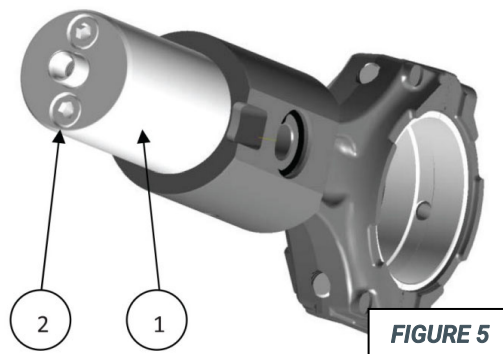

FIGURE 5
8. After removal, inspect the plunger guides for wear (figure 5, item 1). Replace the part at the sign of excessive wear. Remove the two M6 screws (figure 5, item 2) to separate the plunger guide from the connecting rod.
3. If the plunger guides have been disassembled, install them onto the connecting rod using the two M6 screws previously removed (figure 5, item 2). Torque to the proper specification found in the section 'Torque Specification' in this section of the manual.